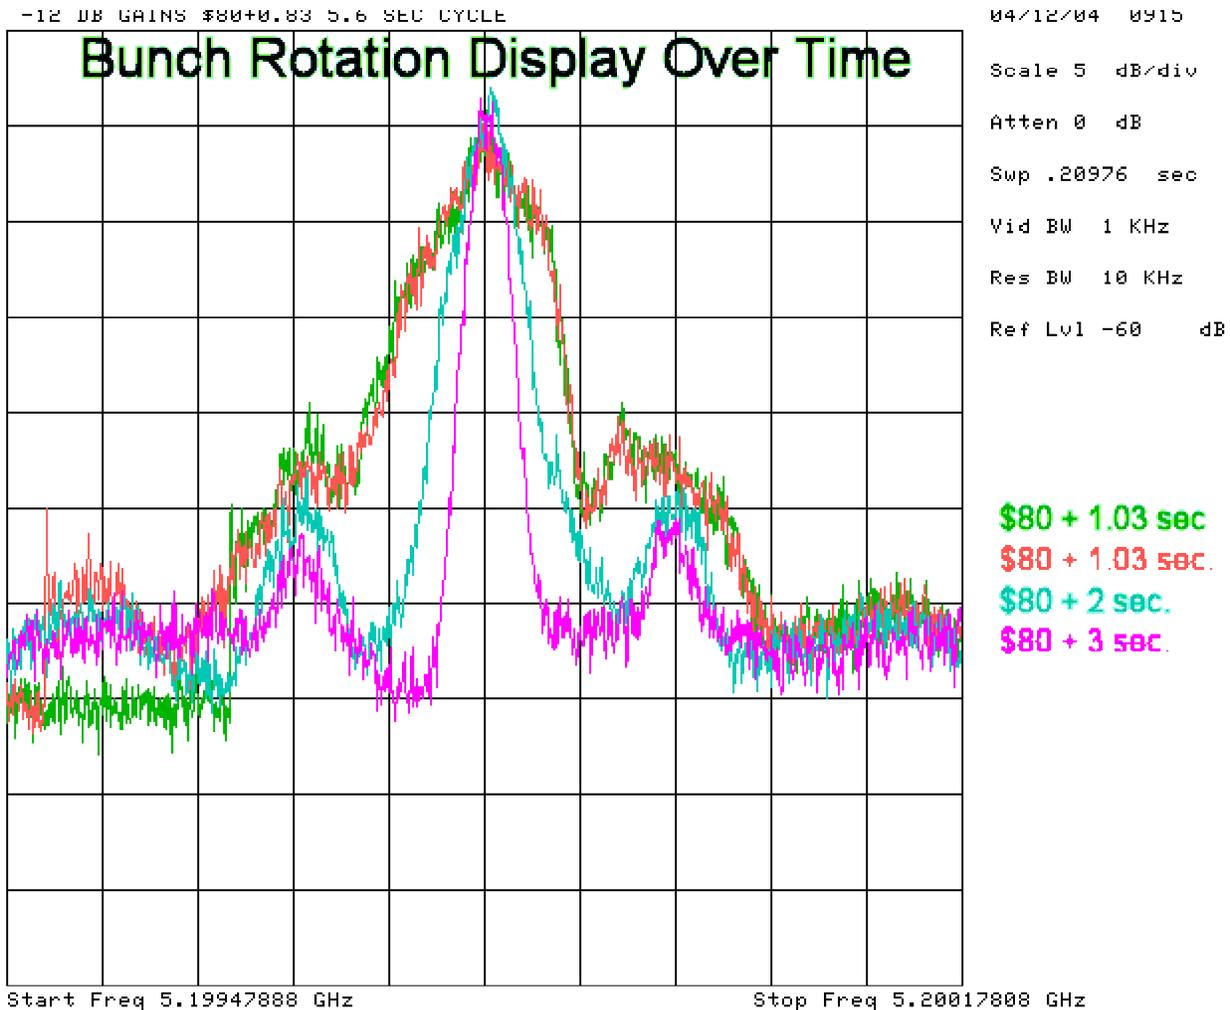

Figure 1: This is the standard bunch rotation display triggered at different times.
The Debuncher Momentum cooling further reduces the momentum spread in the Debuncher after bunch rotation and adiabatic debunching. The Debuncher Momentum cooling approaches what is called the asymptotic width (smallest momentum spread that the system can obtain) in approximately 2 seconds. Figure 1 below shows the Debuncher Momentum cooling in action. The figure is the standard bunch rotation display triggered at different times. As the display is triggered later in time (up to about 2 seconds), the frequency spread of beam in the Debuncher gets narrower. This translates to a narrower momentum spread in the beam. The operating frequency of the Debuncher Momentum cooling is maintained via thermal regulation. This regulation can be tracked with the Acnet parameter D:POVTMP, which should regulate to approximately 0.1°F. This device cannot be tuned; however, the operating frequency of the cooling can be changed by moving the Debuncher Momentum cooling notch filter D:PTMF.
f. A plot showing the peaks aligned at 590017 Hz (1 Hz low) is shown below in Figure 1.